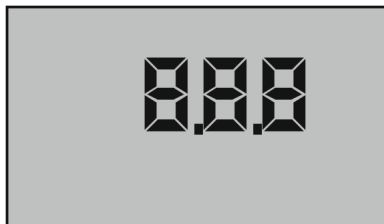

Figure 30
2. Press  key until three numbers are displayed as shown in Figure 30.